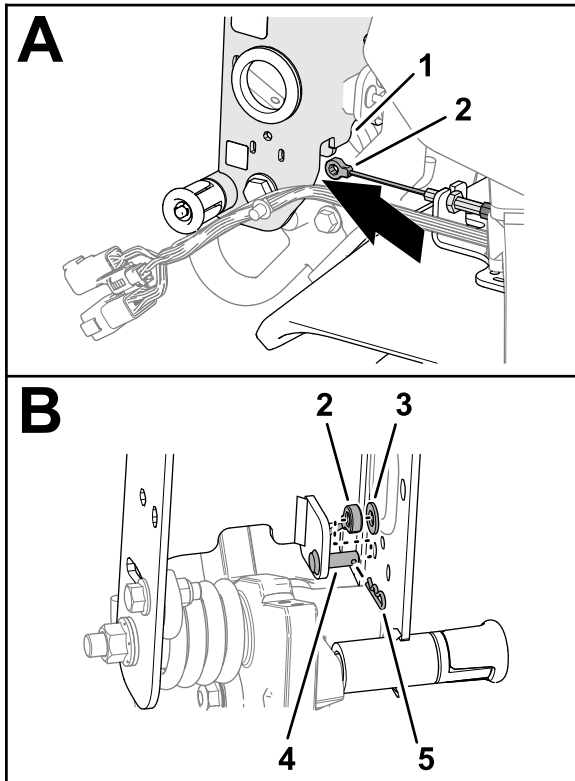

Figure 7
1. Route the fitting of the brake cable under the bottom of the handle-bar channel (Figure 7).